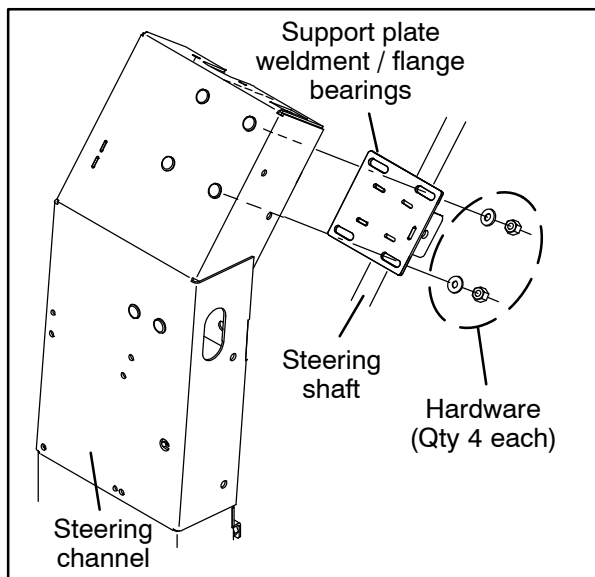

FIG. 47
7. Reinstall the hardware to secure the support plate weldment / flange bearings to the steering channel. Do not completely tighten the hardware. Hardware is tightened during later adjustment. (Fig. 47)